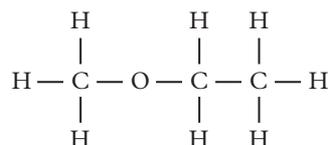

FIGURE 5 Structures of 1-propanol and ethyl methyl ether
- 31** The boiling point of 1-propanol is 97°C and that of ethyl methyl ether is 7.4°C. The two molecules have the same number of carbon, oxygen and hydrogen atoms (Figure 5). Analyse the molecules and justify the difference in their boiling points.